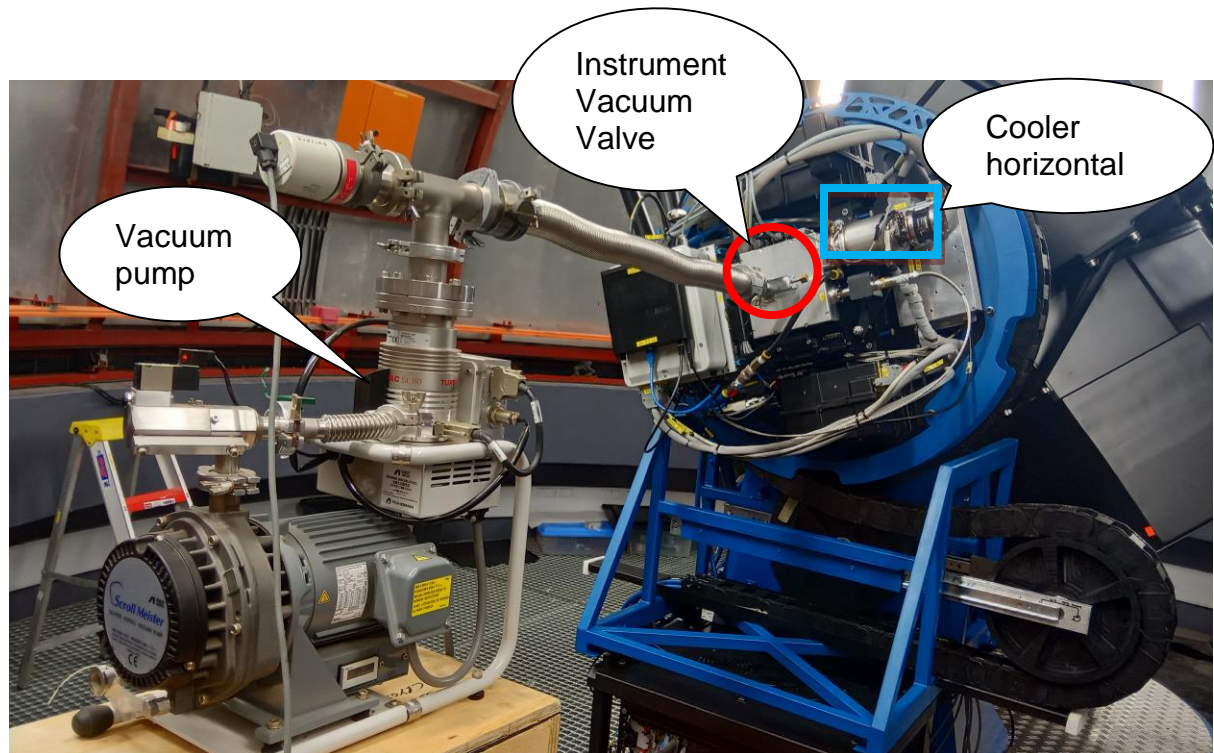
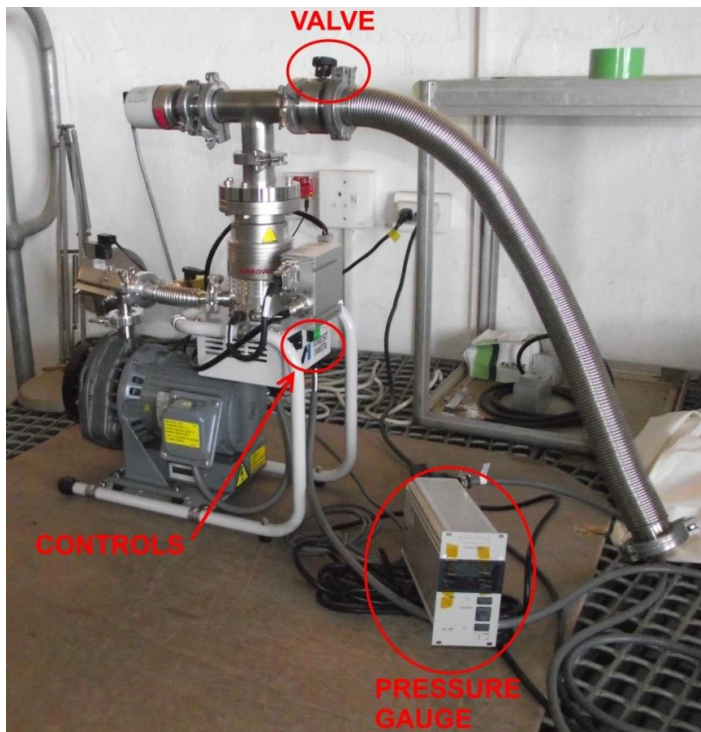

Figure 2: Vacuum pumping Sibonise
Figure 3: IRSF 110V Portable vacuum pump
1. Rotate Left Fork until Cooler is horizontal (Figure 2)
4. Open the valve on the pump using the valve knob (see Figure 3).
9. Open the valve on the instrument (See Figure 2), using the valve knob (see Figure 1), or by hand.
3. Connect the hose to the instrument and ensure the pump valve is open (see Figure 3).
4. Open the valve on the instrument (see Figure 2).
1. Close instrument vacuum valve (Figure 2), as well as the pump valve (Figure 3), if applicable.